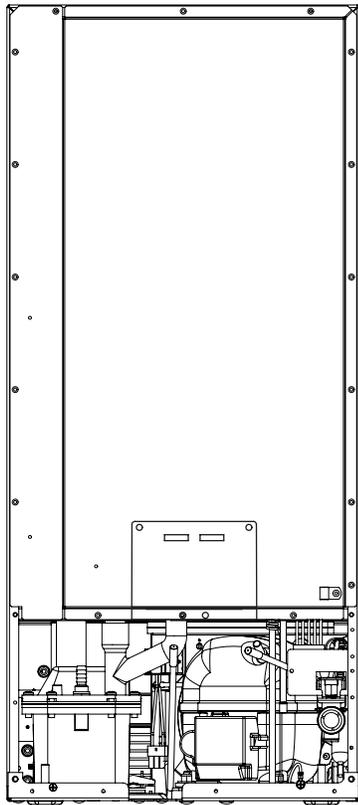
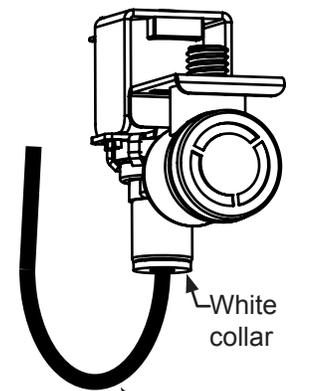

Figure 38
Figure 38a
7. Disconnect the water valve's outlet water line to the reservoir and drain the remaining water left in the water line trap area. (See Figure 38 and Figure 38a).
8. Reconnect the water valve outlet water line. (See Figure 38 and Figure 38a).